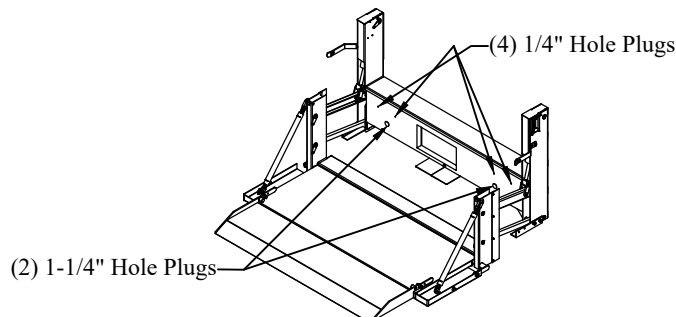

Figure 4: Plugged Mounting Holes
4. **Remove** two (2) 1 1/4" and four (4) 1/4" hole plugs from access holes (Figure 4).
1. **Pull** two (2) 3-prong tail light plugs and a 2-prong tail light plug through each 1-1/4" access hole (Figure 4 or 5).
4. **Secure** the grommets inside the 1 1/4" holes (Figure 4).